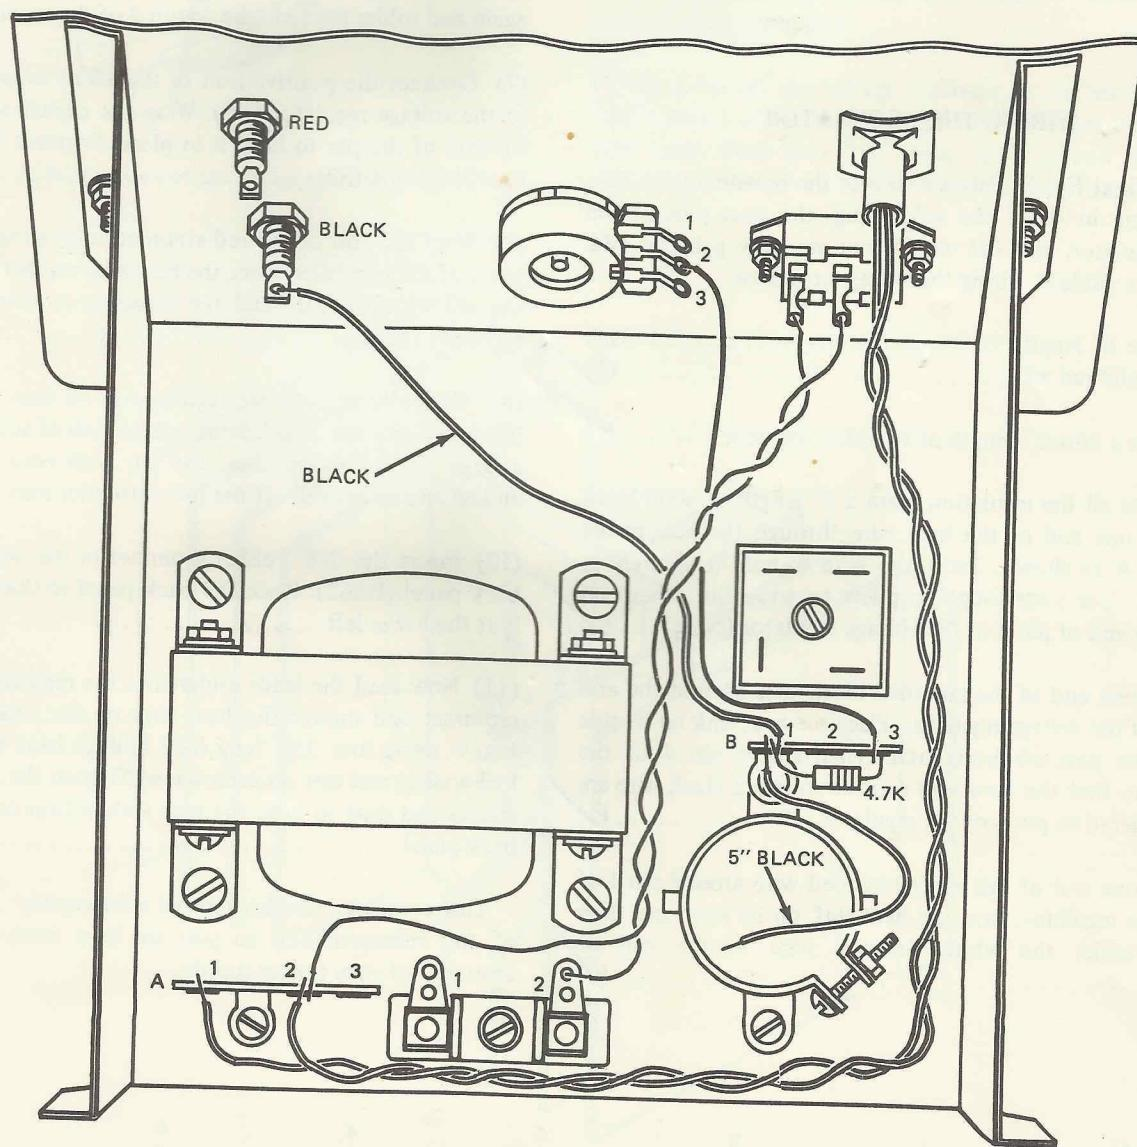

Fig. 10. Wiring the front panel.
- (1) Place the chassis on your workbench and bring the front panel to the chassis as shown in Fig. 10. Insert the four screws through the panel and the sides of the chassis. Use a lockwasher and a 6-32 hex nut on each screw. After you have the four screws in place, tip the chassis on its side and insert the screws through the two remaining holes in the bottom chassis lip. Again, use lockwashers and 6-32 hex nuts. Tighten the two screws through the bottom lip of the chassis and then tighten the four screws through the panel and at the sides of the chassis ()
- (2) Loosely twist together the two black leads connected to the on-off switch. Dress the leads against the chassis and route
them as shown in Fig. 10, connecting the shorter of the two leads to terminal 2 of the fuse holder (S1), and the longer to terminal 2 of the 3-lug terminal strip A (NS) near the rear of the chassis ()
- (3) Loosely twist together the two leads from the pilot light and route them as shown in Fig. 10. Connect one lead to terminal 1 of the 3-lug terminal strip A (NS) and connect the other lead to terminal 2 of the 3-lug terminal strip (S3) . . . ()
- (4) Connect the 4.7k-ohm resistor from terminal 1 (NS) to terminal 3 (NS) of terminal strip B ()
- (5) Connect the stranded black wire from the black jack on the front panel to terminal 1 of the 3-lug terminal strip B (NS) ()
- (6) Prepare a 5" length of stranded black wire and connect one end of it to terminal 1 of terminal strip B (S4) ()
- (7) Connect the solid red wire from terminal 2 of the potentiometer to terminal 3 of terminal strip B (NS) ()